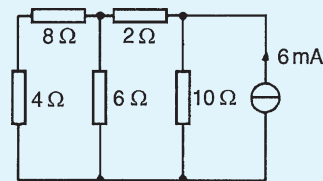

Figure 13.64
3. Determine the current flowing in the  $6\Omega$  resistance of the network shown in Fig. 13.64 by using Norton's theorem.